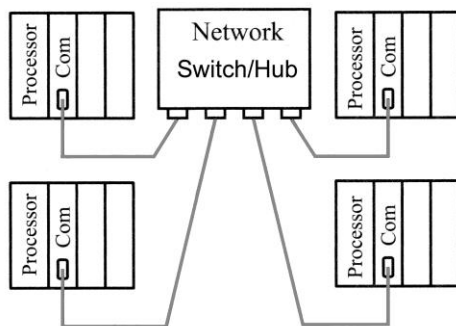

Figure 14-2 Network connection for question 30.
30. The type of network connection topology shown in Figure 14-2 is 30._____